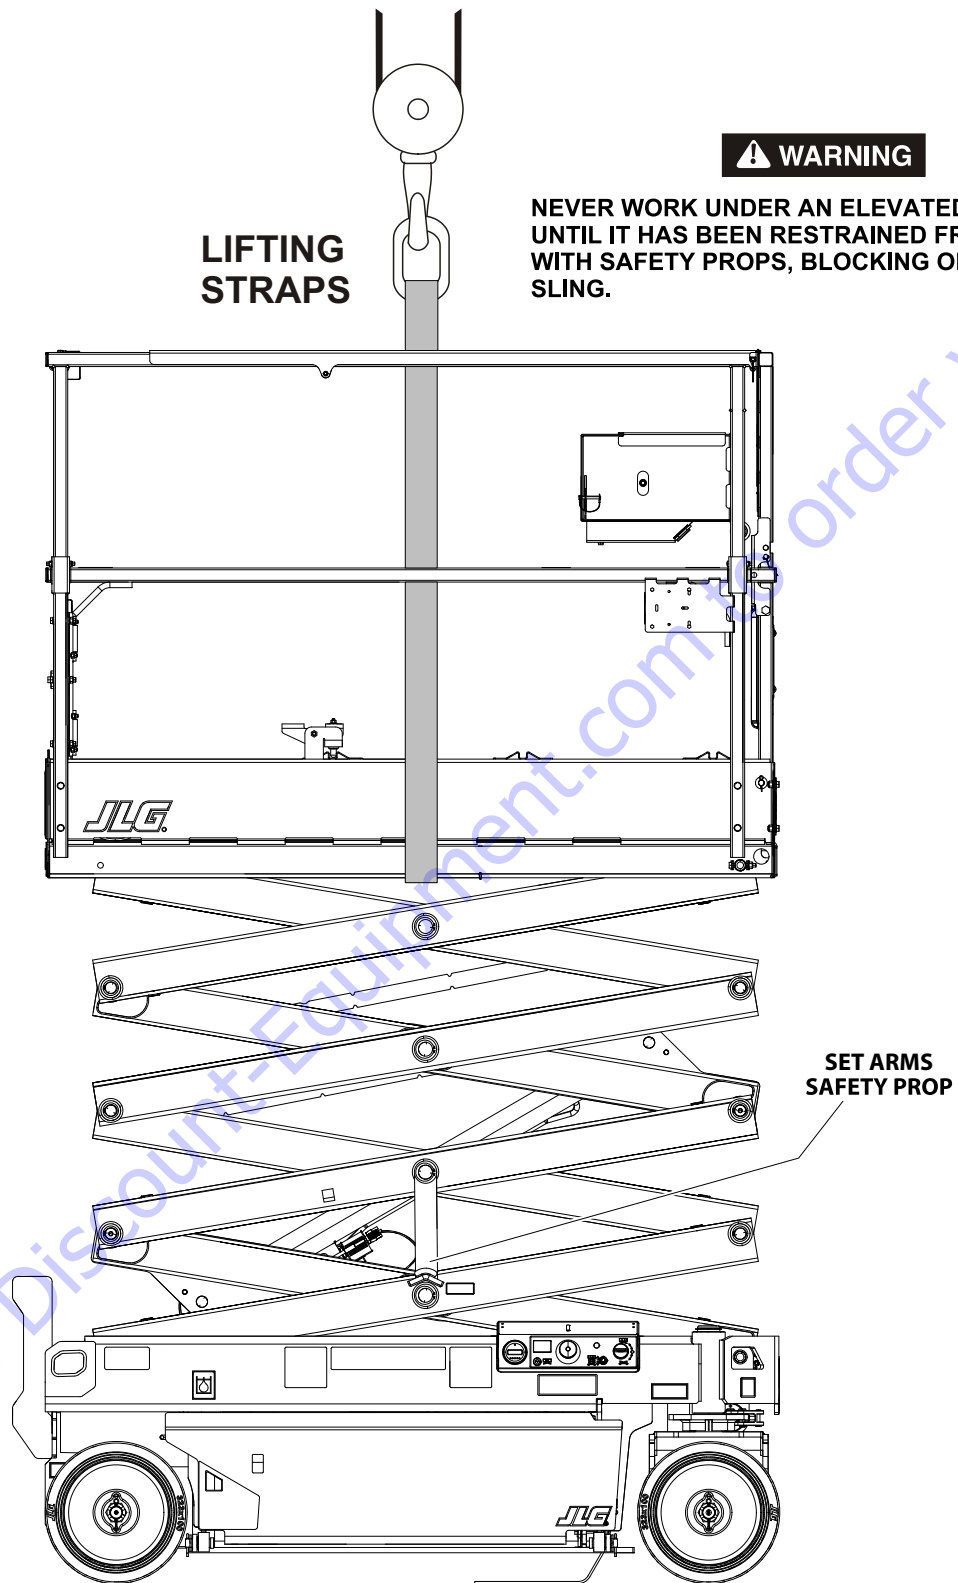

Figure 3-33. Arms and Platform Positioning with Overhead Support
The arm stack can be supported by using an overhead crane, (See Figure 3-33.). If an overhead crane is not available the stack may also be lifted by using a fork-truck using the following instructions:
1. Support the platform using an overhead crane with straps capable of lifting at least 500 lbs (227 kg) (See Figure 3-33.)